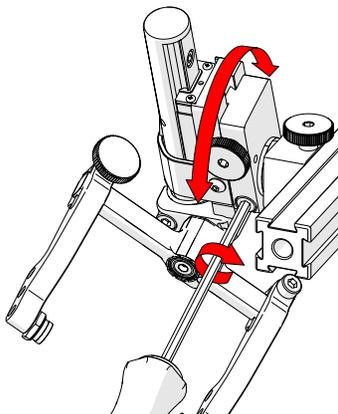

Fig. 137 - Rotate to position
3. Rotate the main body of the probe holder until it is at the desired angle (*Fig. 137*).
4. Tighten the longitudinal adjustment screw (*Fig. 137*).